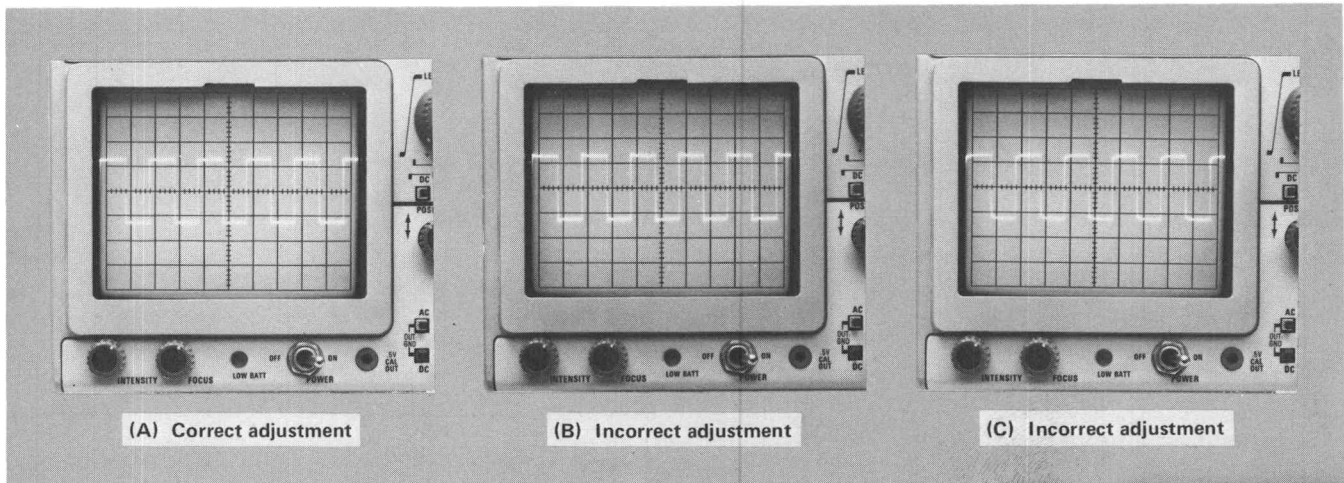

Fig. 5-3. Input capacitance check, typical displays.
c. CHECK—CRT display for 0.2 division, or less, of overshoot or rounding (47 pF, ± 4 pF; see Fig. 5-3).